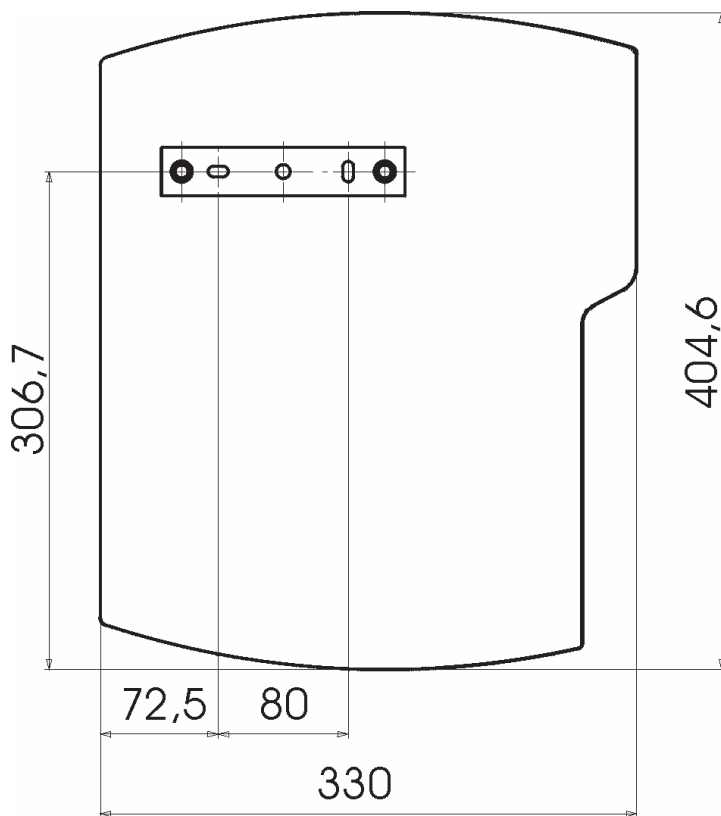

Fig. 3a: Drilling dimensions
- Mark drilling points for the mounting plate **(23)** on the wall and drill two 8mm holes **(Fig. 3a)**